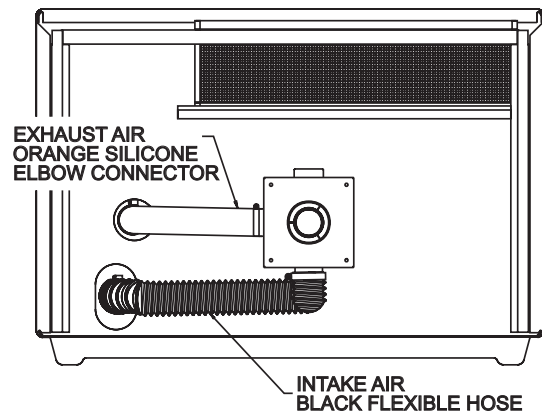

Figure 8
Be sure to deburr the ends with a file after cutting. Installation is easy after cutting the wall opening secure the vent terminal box in place using the (4) 10 x 1" hex-head screws provided. Locate the box so that the middle exhaust tube is directed toward the furnace exhaust outlet opening. See Figure 8. Attach the black 2" flexible inlet air hose to the bottom 2" connector on the vent box using a hose clamp. Secure the other end to the lower inlet air box connector using the hose clamp. Do not kink hose. Attach the long straight end of the 2" orange silicone exhaust elbow to the middle vent terminal tube and rotate the elbow toward the furnace exhaust outlet. Secure the hose to the vent box using a hose clamp. Carefully push the furnace back closer to the wall and secure the exhaust elbow to the 2" exhaust tube exiting the unit. Secure the elbow in place using the last remaining hose clamp. The furnace can now be secured to the wall.